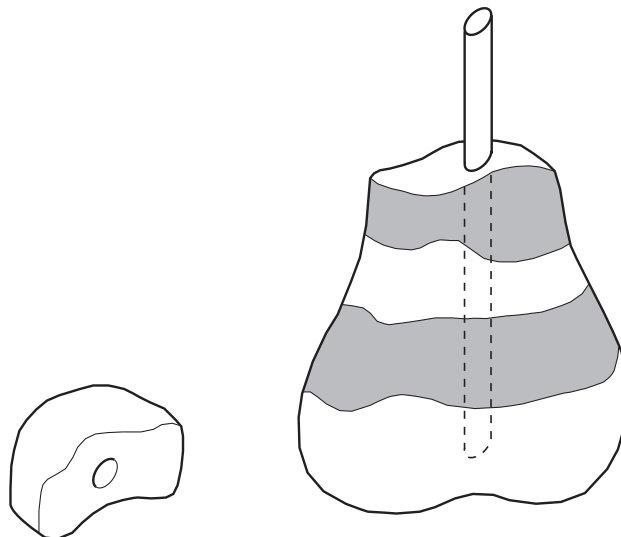

Fig. 2
- 4 Fig. 2 shows a wooden puzzle. State **two** possible ways of colouring the surface. [2]